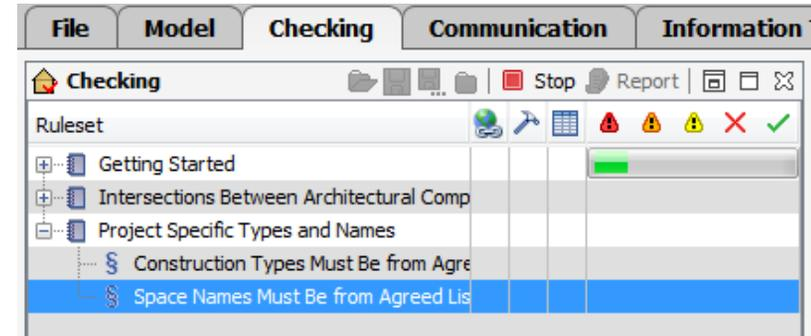

Figure 44 Checking process
- (1) Click the  **Check** in the **Checking View** Toolbar.
- (2) The checking process starts and you can follow the progress in the **Checking Tree Table** (see Figure 44).